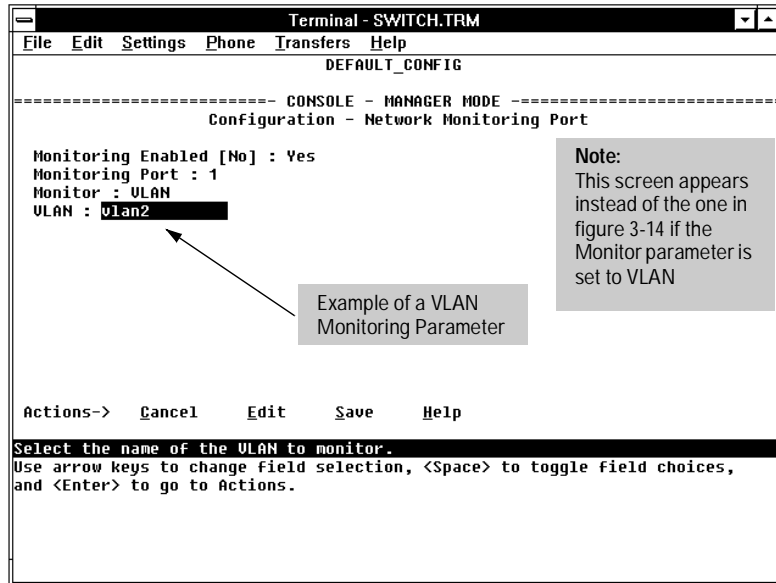

Figure 3-15. Example of Selecting a VLAN to Monitor
- If, instead of individual ports, you want to monitor all of the ports in a VLAN, press the Space bar to select `VLAN` in the `Monitor` parameter, then press **↓** to move to the `VLAN` parameter (figure 3-15). Then press the Space bar again to select the VLAN that you want to monitor. When you are finished, press **Enter**, then press **S** (for `Save`) to save your changes and exit from the screen.